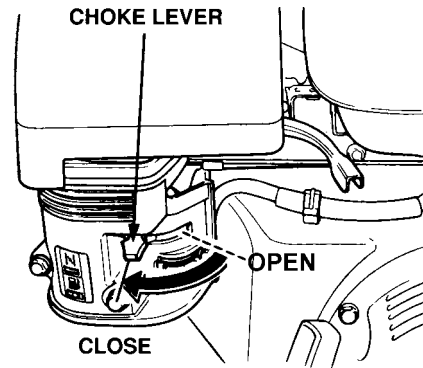

Figure 11. Engine Choke Lever
3. Place the ***choke lever*** (Figure 11) in the "CLOSED" position if starting a ***cold*** engine.